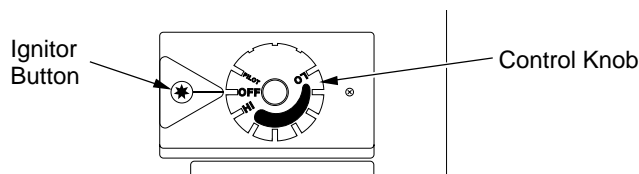

Figure 45 - Control Knob In The OFF Position
4. Wait five (5) minutes to clear out any gas. Then smell for gas, including near the floor. If you smell gas, **STOP!** Follow "B" in the safety information above. If you don't smell gas, go to the next step.
5. Turn control knob counterclockwise  to the PILOT position. Press in control knob for five (5) seconds (see Figure 45).